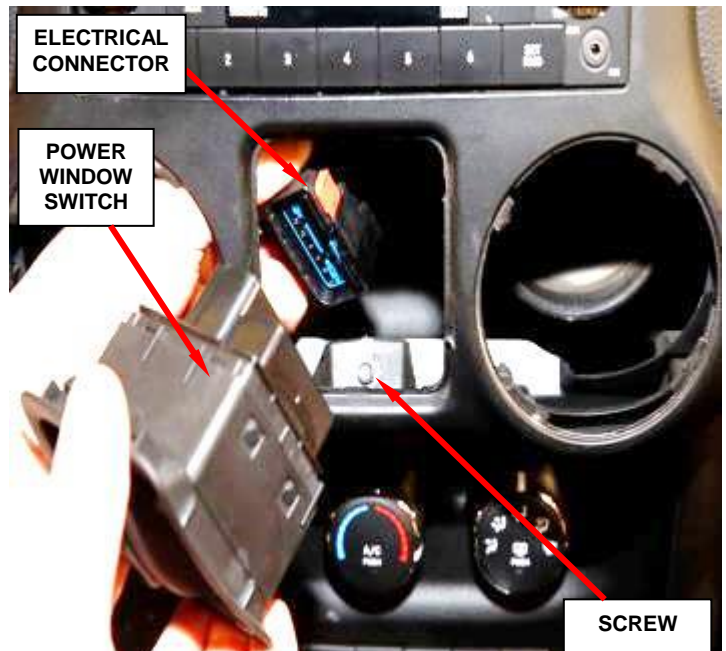

Figure 122 – Power Window Switch
14. If equipped with power windows, using a Trim Stick C-4755 or a suitable flat bladed tool, gently pry the switch assembly away from the instrument cluster bezel (Figure 122).
16. Disconnect the switch assembly electrical connector and remove the switch (Figure 122).
17. Remove the screw from the power window switch opening (Figure 122).